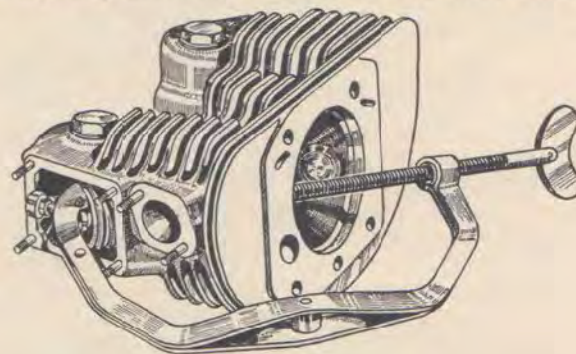

Fig. 9.
- 25 **Removal of Valves.** Remove the rocker covers each held by four nuts, swing the rocker clear of the valve and lift, or prise away the hardened steel thimbles or end caps. If these have stuck, they can be removed by means of a screwdriver (Fig. 8). Using a suitable valve spring compressing tool (Fig. 9), compress the valve springs and remove the split conical collars from the end of the valve stem. Slacken